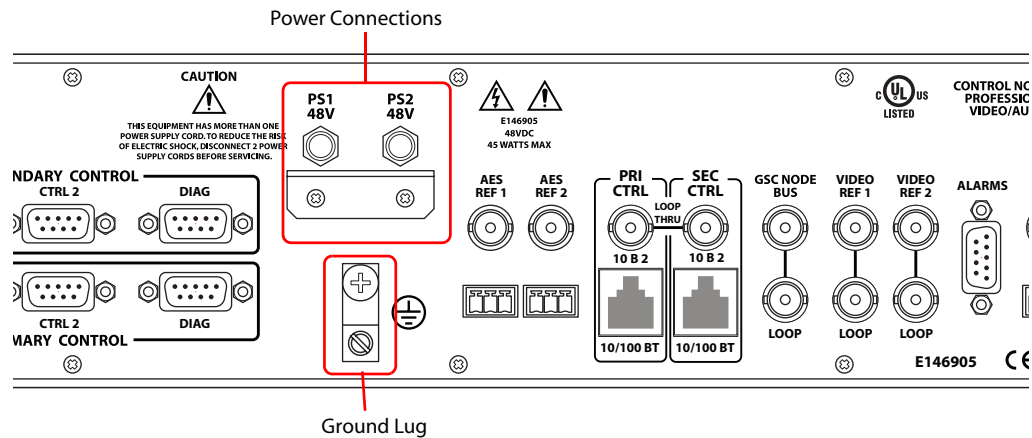

Figure 2-8. Power Connections and Ground Lug (Rear View)
- 1 Locate the power connections on the rear of the EC9535. The connections are labeled 'PS1 48V' and 'PS2 48V', as shown in Figure 2-8.
- 5 Connect the EC9535's ground lug to earth ground using a copper wire from 14 to 6 AWG. The ground lug is located in the lower right corner of the frame, as shown in Figure 2-8 on page 17.